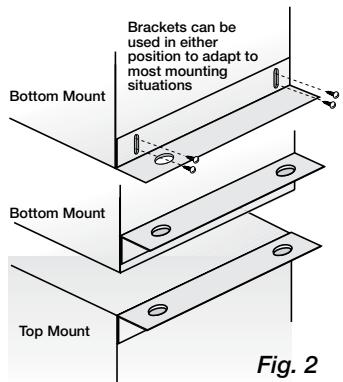

Fig. 2
2. Attach adjustable mounting brackets to fan, but leave the screws loose until proper height is determined, shown in Fig. 2. Cut hole to dimensions shown in table below: